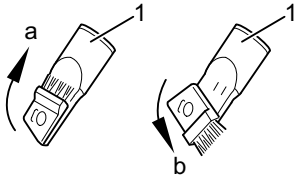

Fig.6
**Crevice nozzle (Fig. 6/a)**
**Furniture brush (Fig. 6/b)**